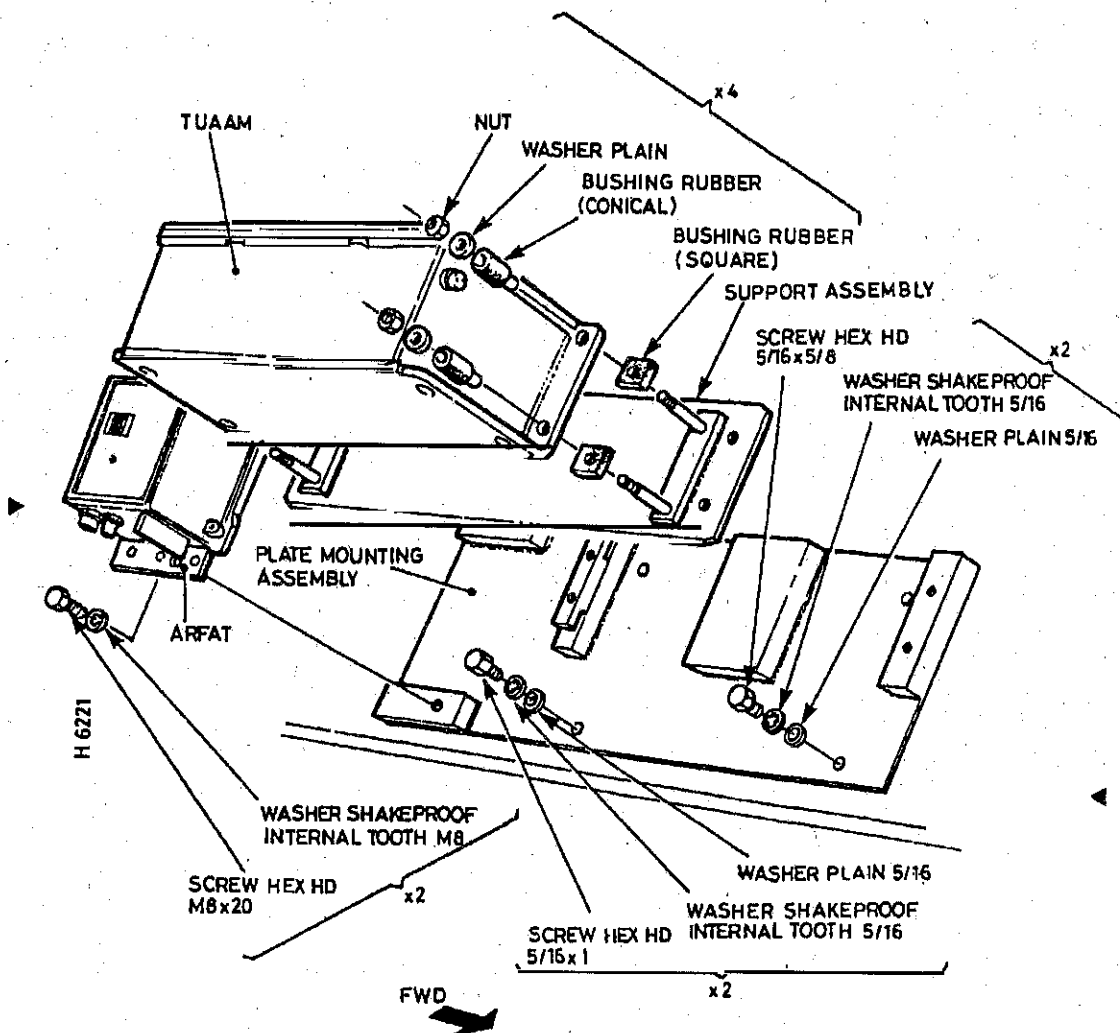

Fig 2 TUAAM and ARFAT mounting
16 Fit the TUAAM (12) to the interior turret LH side, as shown in Fig 2:
- 16.4 Assemble Bushings Rubber (5 and 6) on TUAAM (12), refer to Fig 2.
- 16.7 Connect the free end of Cable Assembly (14) and Lead Electrical (22) to the TUAAM (12).
- 17 Locate the ARFAT (4) over the two remaining holes on the Mounting Plate Assembly (9) and secure. Refer to Fig 2. (Operation 5).